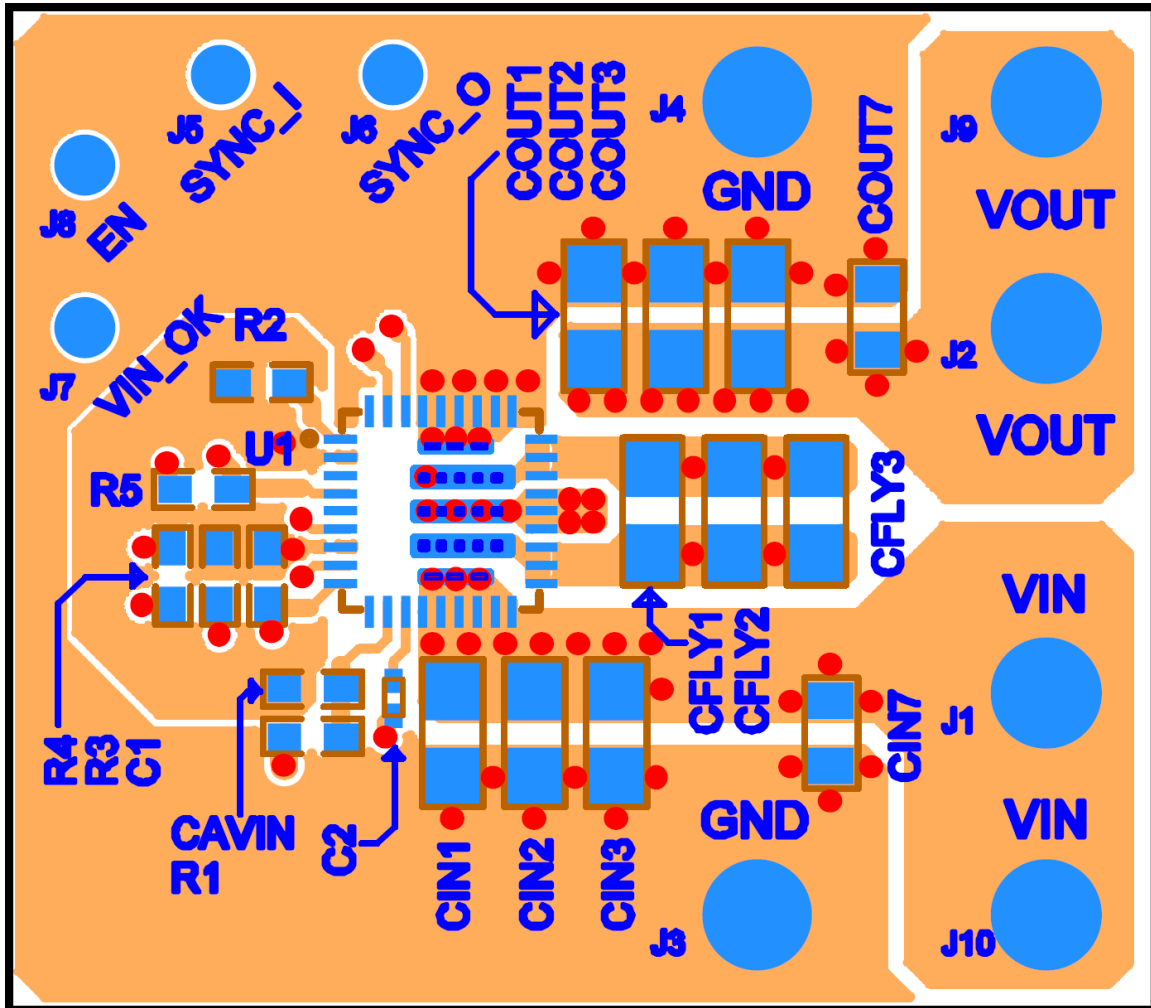

Figure 14: Top PCB Layer Critical Components and Copper for Minimum Footprint (Top View)
Figure 14 shows critical components and layer 1 traces of a recommended minimum footprint EC2650QI layout. ENABLE and other small signal pins need to be connected and routed according to specific customer application. Visit the Enpirion Power Solutions website at [www.intel.com/enpirion](http://www.intel.com/enpirion) for more information regarding layout. Please refer to this Figure 14 while reading the layout recommendations in this section.
**Recommendation 4:** The large pads (PGND, CFLYN, VOUT, CFLYP, PVIN) underneath the component should be connected to their respective pins with as many vias as possible. In order to reduce excessive solder from bridging between the large pads, follow the stencil size as shown by the blue boxes inside the large pads in Figure 14. The large pads provides lower impedance from inside the package to the outside connections as well as help with power dissipation due to the amount of metal present.
**Recommendation 5:** As shown in Figure 14, VOUT is brought out from its pins on another layer. Be sure that the connection from VOUT pin to the output caps is as thick and wide as possible in order to reduce resistance.
**Recommendation 6:** As shown in Figure 14, the input ground is connected to the PGND pins through the 2nd layer ground plane with as many vias as possible. This ensures that the input and output ground connections have as low resistance as possible while also minimizing the total solution layout.
**Recommendation 7:** AVIN is the power supply for the small-signal control circuits. It should be connected to the input voltage at a quiet point. In Figure 14, this connection is made at the input capacitor furthest away from the PVIN pins. The AVIN also has a RC filter (30.1Ω and 10μF) close to its pin.